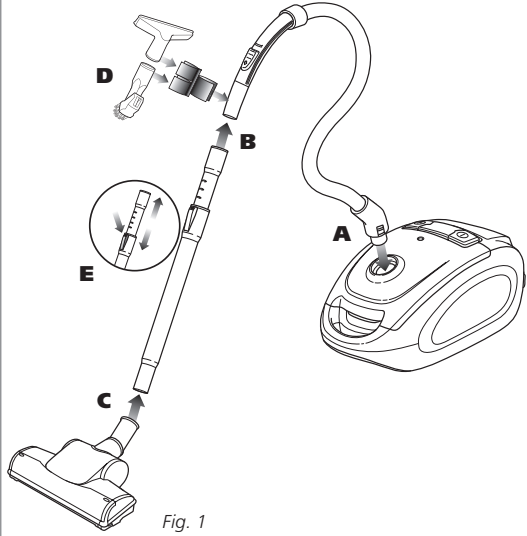

Fig. 1
- 2** Insert the flexible hose (**A**) into the air intake duct. Push it in until you hear it “click”, indicating that it is locked in place. (**Fig. 1**)
- 3** Firmly push the telescopic tube (**B**) into the handle end of the flexible hose until it is secure and tight. (**Fig. 1**)
- 4** Push the end of the telescopic tube into the air driven floor brush (**C**). (**Fig. 1**)
- 6** Snap the on-board tool holder onto the lower part of the flexible hose handle. (**D**) Store the combo crevice/dusting tool and the upholstery brush on the accessory holder. (**Fig. 1**) Place the accessories on the side so that they will not block the manual suction release.
- 7** Press the telescopic tube release (**E**) to extend or retract the telescopic tube. (**Fig. 1**)